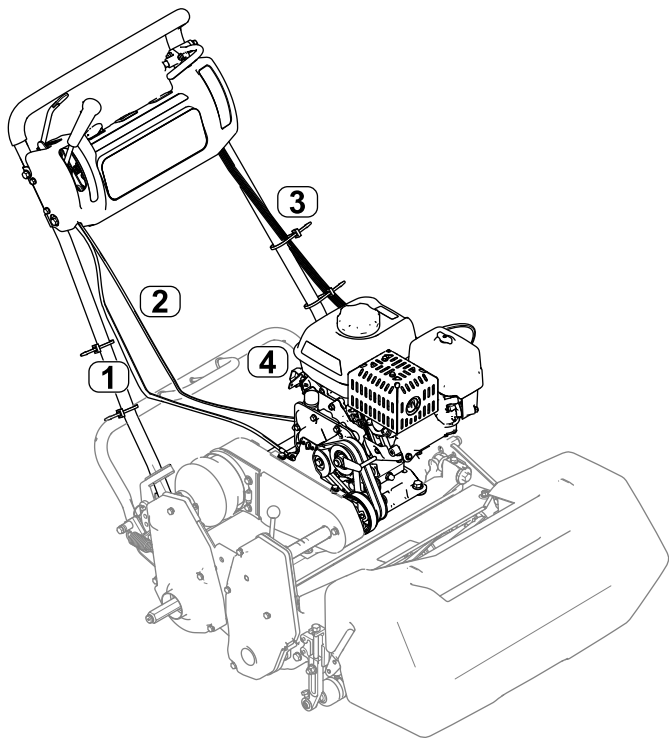

Figure 10
12. Install the throttle cable to the machine, refer to the machine *Service Manual* (Figure 10).
Note: Observe the throttle-cable routing as shown in Figure 10. Route the cable to the left side of the engine and between the air-cleaner cover and fuel tank.
19. Connect the wire harness to the interlock module and route the harness up the left side of the handle (Figure 10).